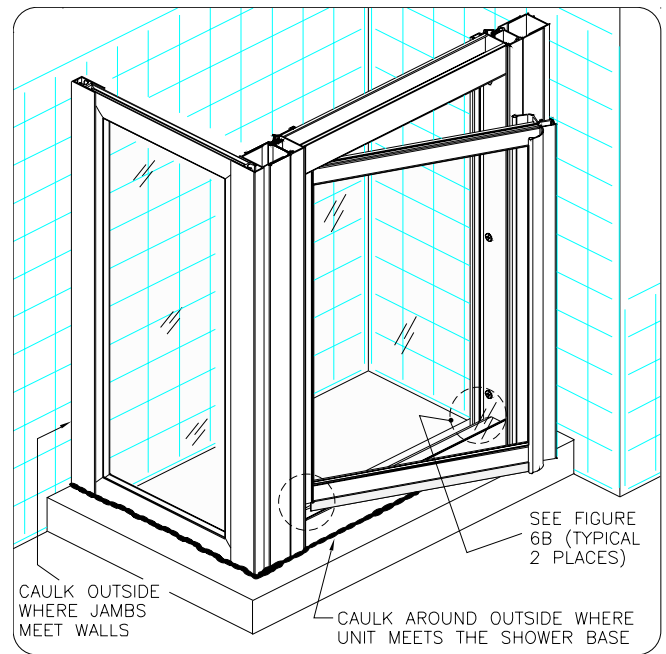

figure 6
First: Run a bead of clear mildew resistant caulking around the outside of shower enclosure where shower unit meets the shower base and where Wall Jamb meet wall (see figure 6).
Second: From inside the shower unit, caulk the two(2) circled areas indicated in figure 6 above (caulk the crevice where the horizontal member meets the vertical member as shown in figure 6b).